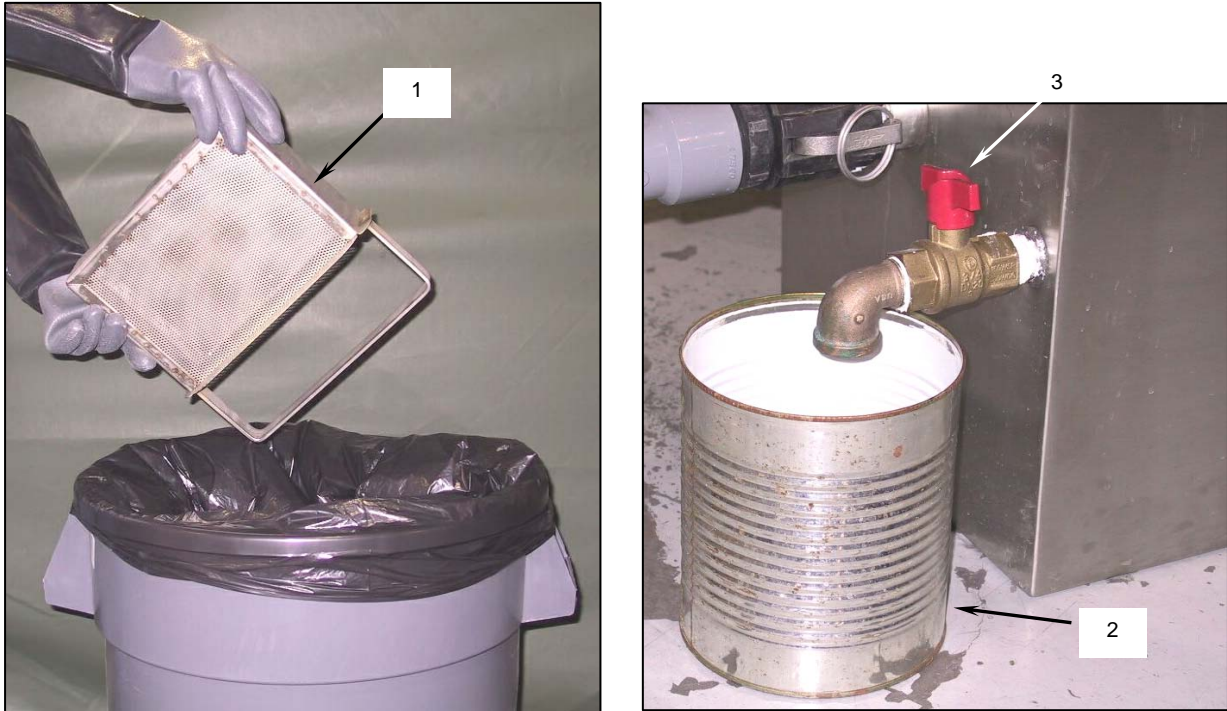

Figure 30. Removing Solids and Grease from the Grease Separator.
- b. Remove the strainer basket (**Figure 30, Item 1**) from the grease separator and empty the collected solids into a trash receptacle.
- d. Place a #10 can (**Figure 30, Item 2**) under the grease removal valve spout.
- e. Open the grease removal valve (**Figure 30, Item 3**) and drain the surface grease from the grease separator into the can, then close the valve. Repeat as many times as necessary until all the grease is removed.